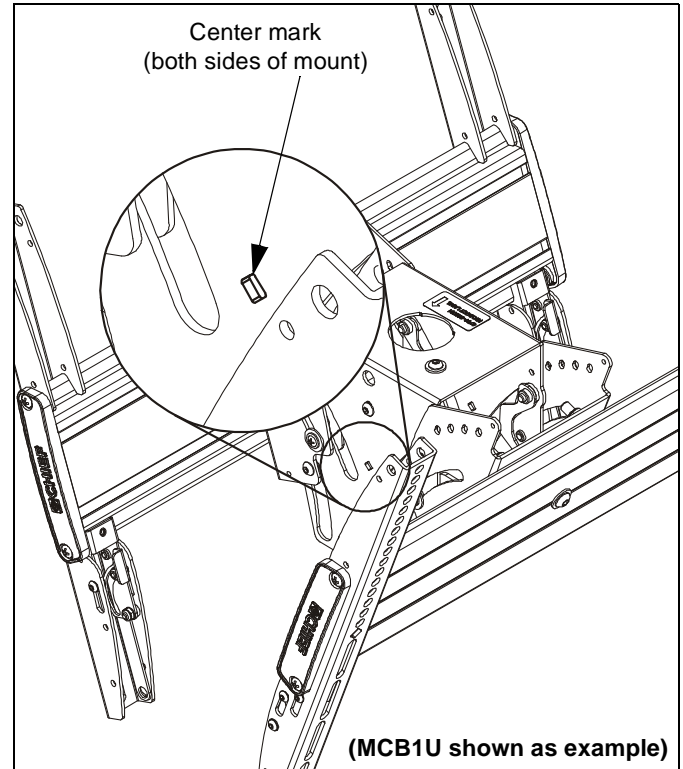

Figure 2
1. Install MCB1U / LCB1U mounts (B) onto column following instructions included with MCB1U/LCB1U.
**IMPORTANT ! :** Match the center marks on the MCB1U/ LCB1U mounts with the marks on the column. (See Figure 2)